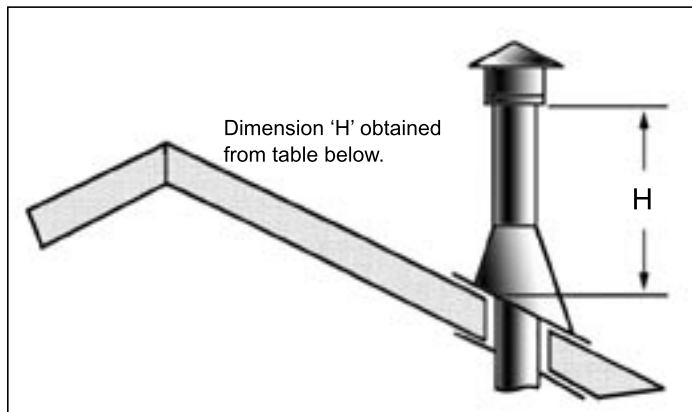

Figure 27: Height of Vertical Termination; Reference Table 6.
- STEP 8.** Continue to add pipe sections until the height of the vent cap meets the minimum code requirements. Refer to Figure 27 and Table 6. Note that for steep roof pitches, the vent height must be increased. In high wind conditions, nearby trees, adjoining roof lines, steep pitched roofs, and other similar factors can result in poor draft, or down drafting. In these cases, increasing the vent height may solve the problem.
Table 6: Minimum 'H' for Figure 27